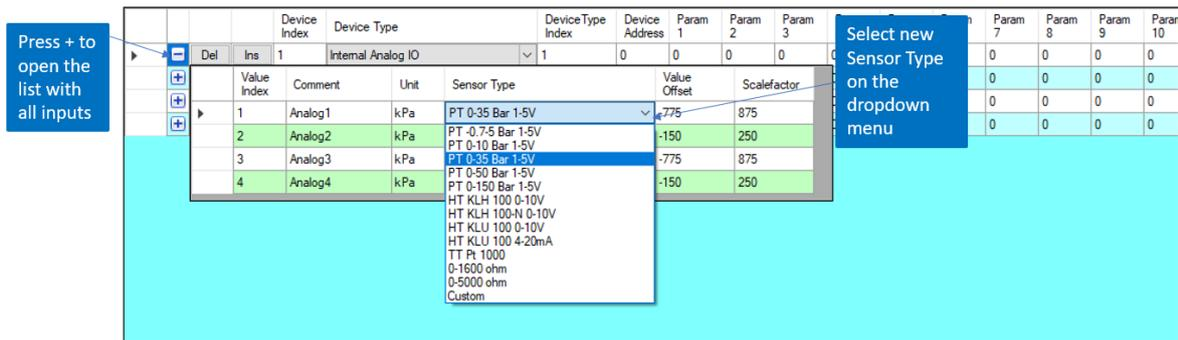

Figure 13
- Open the list with inputs for a device with the + to the left, see Figure 13